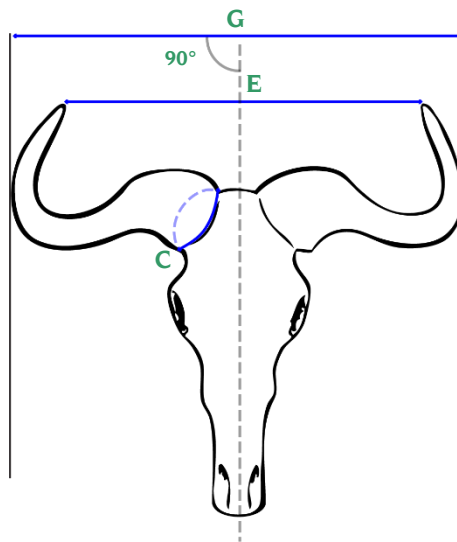

Figure 1 Blue, Cookson's, Nyasaland, or White-bearded Wildebeest
1. Greatest Spread. Establish the outer limits of the horns using two right-angle forms. Measure the greatest spread in a straight line and at a right angle to the axis of the skull. (Figure 1, G)
3. Tip-to-Tip Spread. Measure the spread from the very tip to the other tip. (Figure 1, E) The best tool for this is a wood ruler with a 6-inch slide rule built in. N.B. In order to fall in the typical category, the tip-to-tip measurement must be at least 2 inches less than the greatest spread and both the left and the right tips must be at least 1 inch less than the widest spread on their respective sides. If not, the animal falls into the non-typical category.